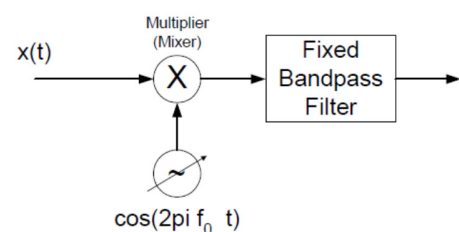

Figure 1: Frequency Mixing, or Heterodyning
Now instead of a bank of narrow filters, we shall have one narrow filter centered at a fixed frequency, say f_1 , and we shall scan the signal spectrum across this filter by multiplying $x(t)$ by a sinusoid of varying frequency f_0 (See Figure 1). The filter is a narrow bandpass filter at a fixed center frequency, f_1 , (called the intermediate frequency); in a spectrum analyzer, its bandwidth is selected by the user. The oscillator frequency, f_0 , is adjustable, as indicated in Figure 1. In an ordinary AM or FM radio, when you tune the receiver you are selecting this
Of course, much more signal conditioning is going on inside the spectrum analyzer than is indicated in Figure 1; but the frequency mixing is the fundamental step. In particular, the signal
In normal operation the frequency control selects the range that the variable oscillator in Figure 1 sweeps through. Pressing the FREQUENCY button causes the frequency menu to appear on the screen. You can select the CENTER frequency (CF) and the START and STOP frequencies. You select the numerical values by turning the control knob, pressing the up/down arrows or by entering the value with the numerical keypad.
The resolution bandwidth is essentially the bandwidth of the fixed narrowband filter in Figure 1. (In reality, there are several stages of filtering.) Pressing the BW/Avg button displays the menu from which you can select the resolution bandwidth, the video bandwidth, and associated controls. Note that you cannot select a continuous range of RBW-there is only a finite selection available.
between auto and manual RBW selection. Video Bandwidth (VBW) is basically a smoothing filter with a bandwidth equal to the RBW. VBW essentially reduces the noise displayed, making the power levels easier to see. VID FLTR button allows you to change the VBW. The sweep control is usually controlled by the spectrum analyzer (the rate at which different frequencies, f_0 in Figure 1, are changed) but you can change this by using the arrows under the SWEEP heading.